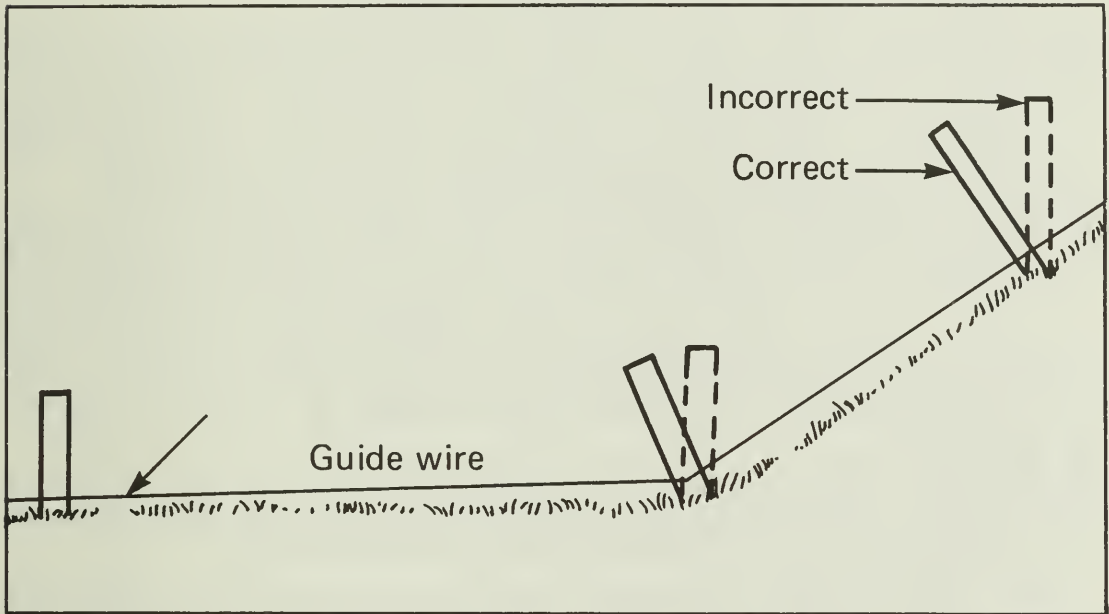

Fig. 34 Vertical placement of line posts.
4. On uneven terrain, take care to drive all posts perpendicular to the soil surface (Fig. 34). This action maintains maximum stability in the soil and maintains the fence height.